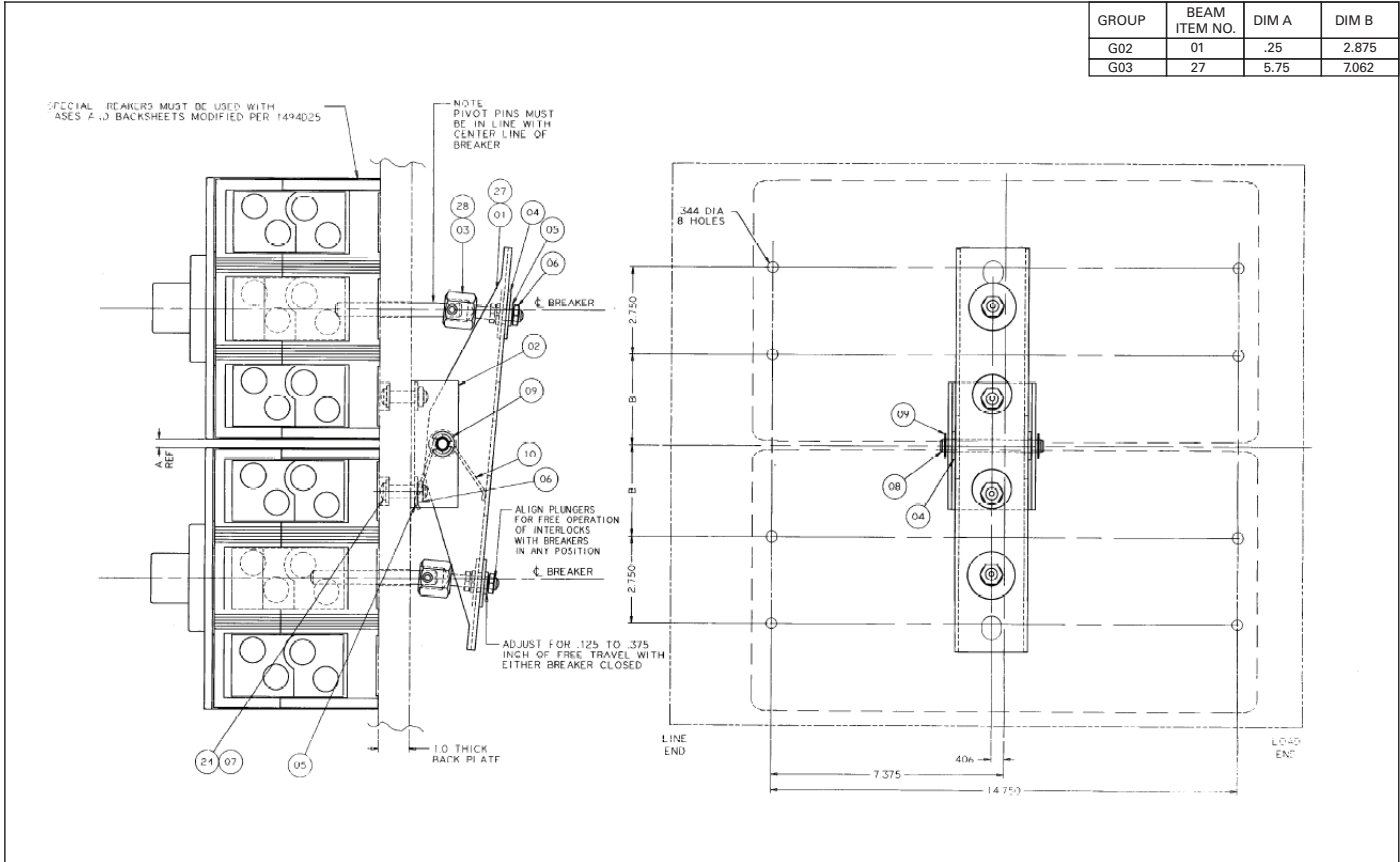

Fig. 2-4 Walking Beam Plunger Adjustment on 3-Pole PD5-Frame Circuit Breaker.
- 2-2. Assemble plunger and socket assemblies to the walking beam with 3/8-16 locknuts, lockwashers, and large washers provided. Make sure that the plunger pivot pins must be in line with center line of breaker as shown in Fig. 2-4.
The walking beam interlock must be adjusted before the circuit breakers are connected to an electrical system. All adjustments should be made at the installation as shown in Fig. 2-4. Carry out adjustment procedure as follows:
- 3-2. Adjust the 3/8-16 locknuts that hold plungers to beam to give 1/8-3/8 in. (3.2 -9.5 mm) of free travel, making sure that the plunger pivot pins are correctly aligned with the breaker's centerline (Fig. 2-4).